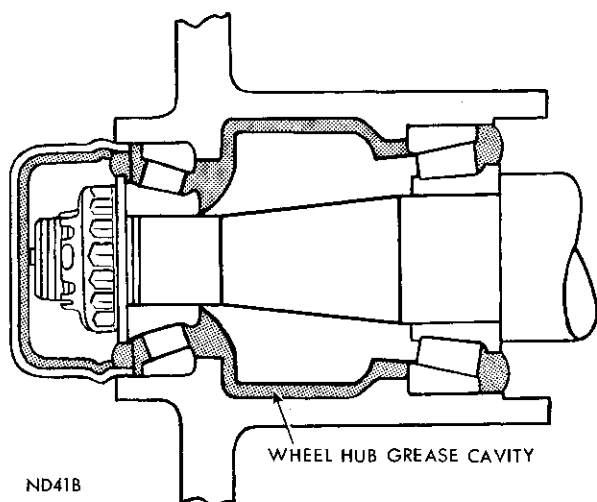

Fig. 9—Wheel Hub Grease Cavity
(1) If the bearing cups were removed, start the new cups into hub evenly, driving them flush with hub using a soft steel block and hammer. Seat cups against shoulders of hub, using a soft steel drift and hammer.
(2) Fill hub grease cavity (Fig. 9) with recommended wheel bearing lubricant. Lubricant should be even with inner diameter of bearing cups.
(3) Force lubricant between bearing cone rollers or repack using a suitable bearing packer.
(4) Install inner cone and a new seal, with lip of seal facing inward. Using Tool C-3893, position seal flush with end of hub. The seal flange may be damaged if tool is not used.
(5) Clean the spindle and apply a light coating of wheel bearing lubricant over the polished surfaces.
(6) Install wheel tire and drum assembly on spindle.
(7) Install outer bearing cone, thrust washer and adjusting nut.
(2) Fill hub grease cavity (Fig. 9) with recommended bearing lubricant, see Lubrication Group 0. Lubricant should be even with inner diameter of bearing cups.
(4) Install inner cone and a new seal with lip of seal facing inward. Using Tool C-3893, position seal flush with end of hub. The seal flange may be damaged if tool is not used.
(6) Install hub and braking disc assembly on spindle and install outer bearing cone, thrust washer and adjusting nut.
(7) Slowly slide caliper assembly down on brake disc assembly and position correctly.
(8) Install caliper assembly over disc and align mounting holes. Install mounting bolts and tighten to 45 to 60 foot-pounds.
(9) Install tire and wheel and tighten wheel nut to specifications.